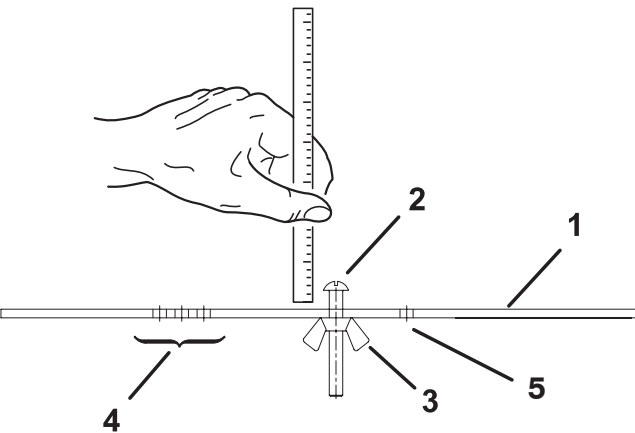

Figure 14
- 2. Loosen nut on gauge bar (Fig. 14) and set adjusting screw to desired height-of-cut. Distance between bottom of screw head and face of bar is height-of-cut.